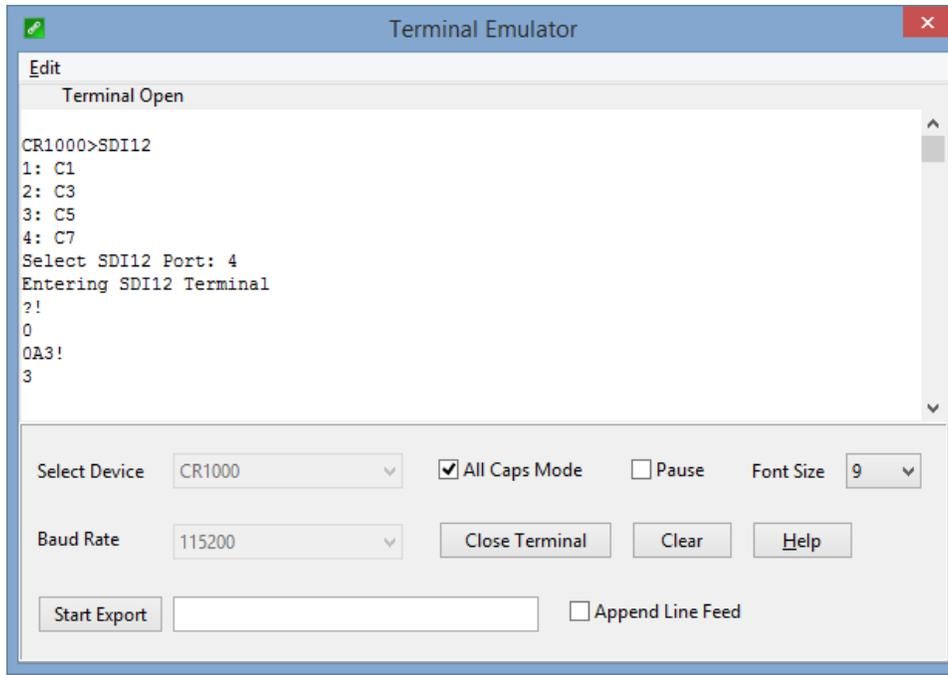

FIGURE B-1. CR1000 example of using the SDI-12 transparent mode to change the SDI-12 address from 0 to 3. Sensor is connected to control port 1.
- To change the SDI-12 address, type **aAb!**, where **a** is the current address from the previous step and **b** is the new address (see FIGURE B-1 (p. 26)). Press **Enter**. The sensor changes its address and responds with the new address.